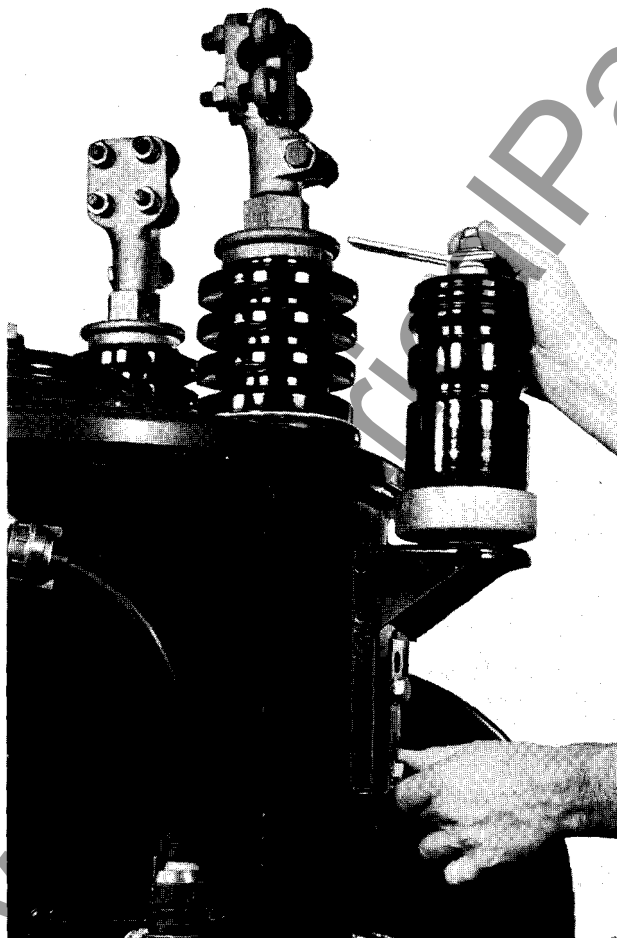

Fig. 5 - ValvEx® Type Arrester
2. If lightning arresters are furnished the air gap should be set at the spacing stenciled on the arrester porcelain. See Table II for gap settings when mounting the arrestors on the tank. Adjustments are provided in both the vertical and horizontal directions. See Figure 5.